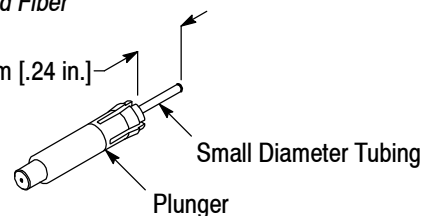

Figure 7
1. For 250- $\mu$ m coated fiber, insert the small diameter tubing (grey or white) into the back of the plunger. See Figure 7. The tubing is properly seated when approximately 6.0 mm [.24 in.] of the tubing remains outside of the plunger.